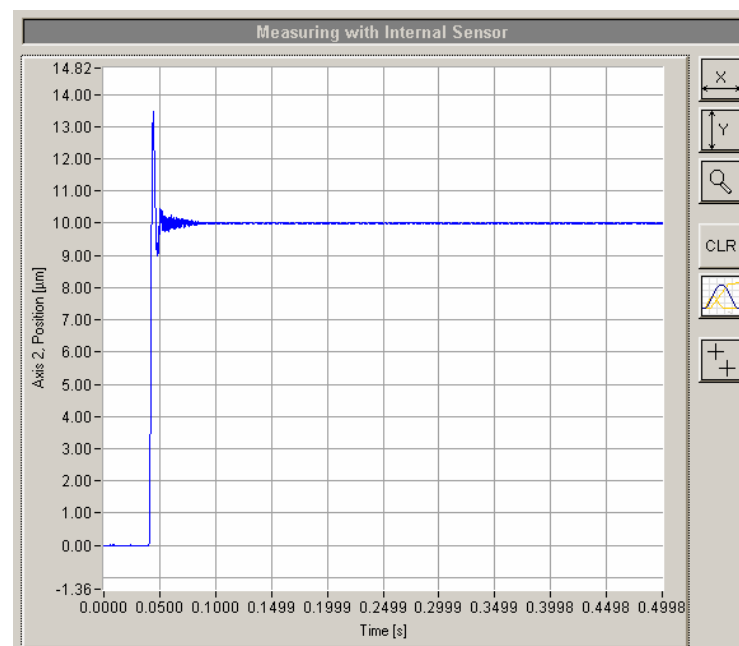

Fig. 50: Step response; higher speed, high overshoot
- If *loop gain* is further increased (Fig. 50) then the rise rate will not rise significantly, but the overshoot will increase.